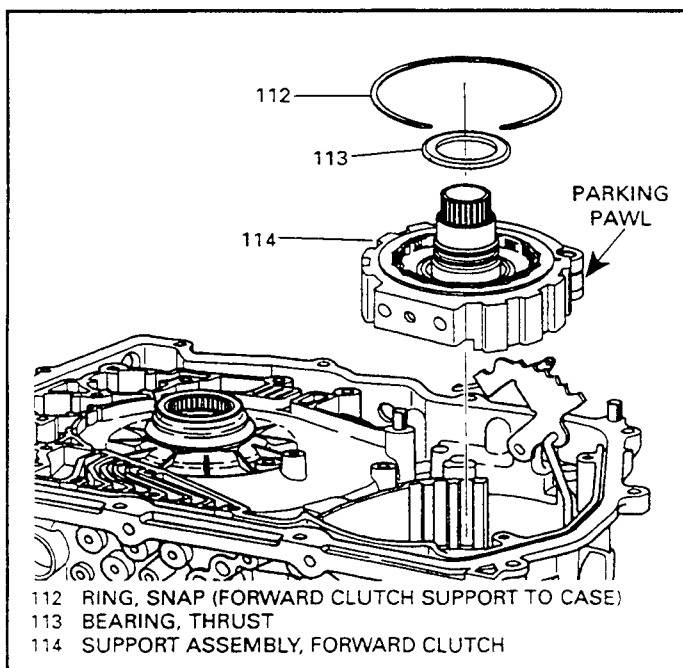

Figure 111
8. Compress the parking pawl spring and line up the parking pawl with the parking gear. While holding in this position, install the forward clutch support assembly into the transaxle case, as shown in Figure 111.